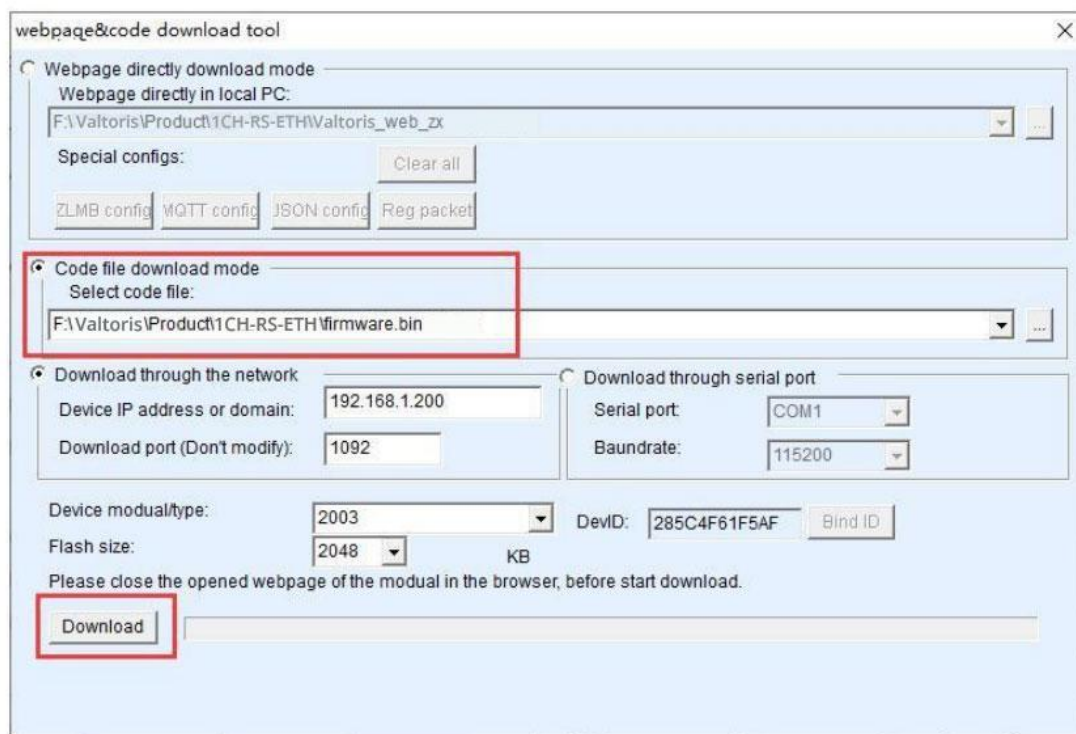

Figure 47 2/4/8 CH-RS485-ETH firmware upgrade method
3. As shown in Figure 47, select the "Program File Download" option. In the program file, select the firmware file. The IP address part of the serial server has been filled in automatically, and there is no need to write it again. The module type/model has been automatically selected. Then click download.